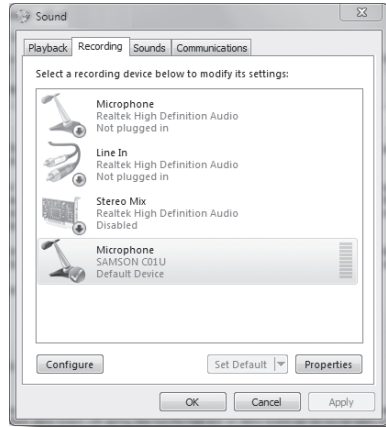

Figure 1
3. To set the C01U as your default device for recording, or to change its settings, click the *Start* button, click *Control Panel* and then click *Sound*. Under the *Recording* tab, you can select the SAMSON C01U from the menus and use the *Set Default* button to set it as the default device (figure 1).